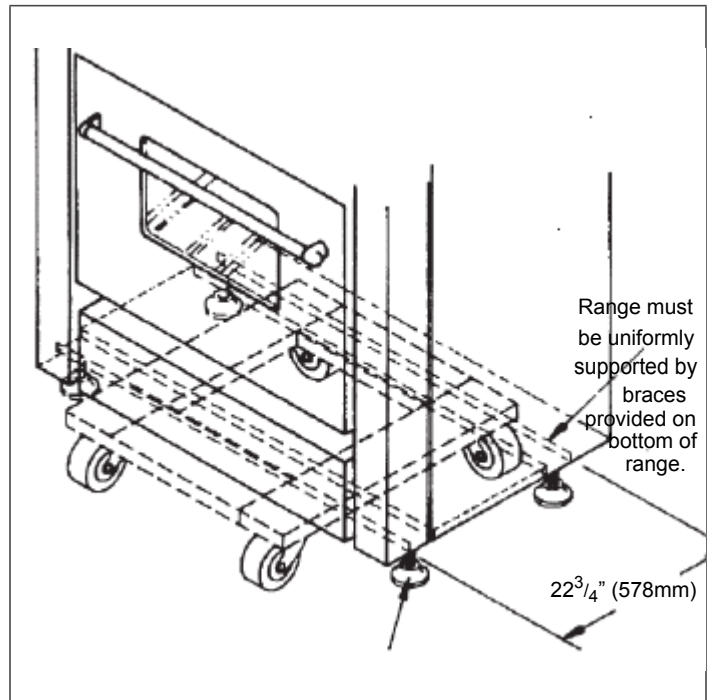

Figure 6: Furniture Dolly Positioning
- Due to the weight, a furniture dolly with soft wheels or an air lift should be used to move this unit. The weight must be supported uniformly across the bottom (see Figure 6).